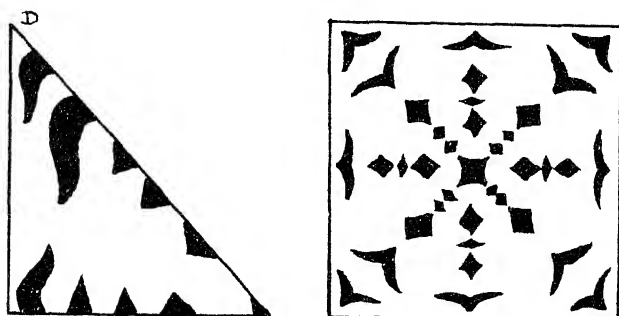

Fig. 2—Square
Six-inch piece of paper cut square (A) (Fig. 2.)